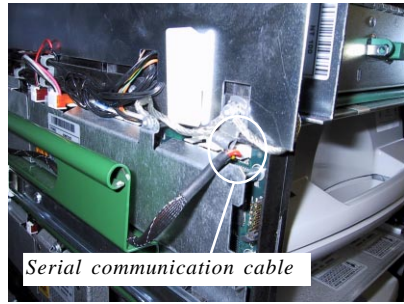

Figure 8. Connect the serial communication cable to the dispensing mechanism as shown. (Forward-most connector)
7. Refer to Figure 8. Connect the serial communication cable to the CMC module on the dispensing mechanism. Make sure to run the cable through the guides that have been provided on the mechanism cover.